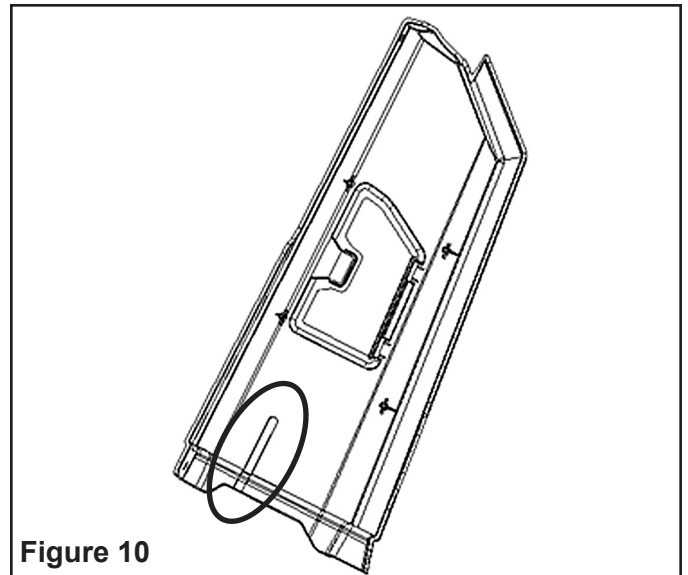

Figure 10
11. Cut a slot on the C-pillar cover for the lower hinge bracket using an utility knife or air saw. Figure 10.